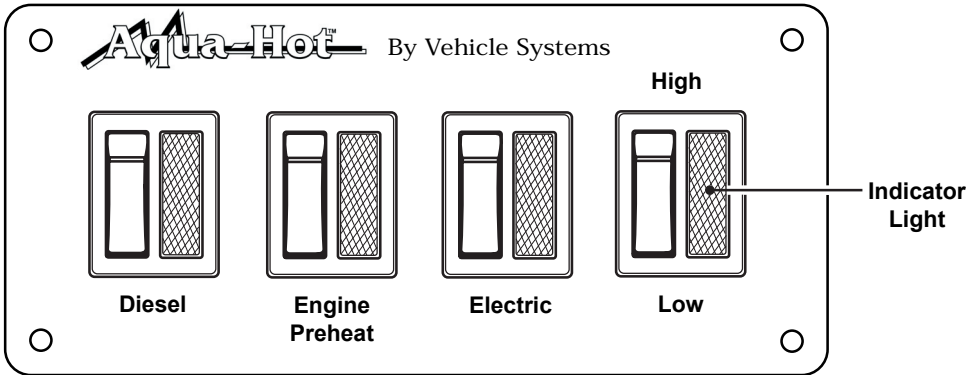

Figure 3
Turn the **Diesel** switch **ON**; reference **Figure 3**. This procedure will activate the Diesel-Burner and the indicator light located on the Diesel switch. Allow **10-20 minutes** for the Aqua-Hot System to reach operating temperature. Please note that the Diesel-Burner is the **primary heat source** for heating both the interior and the domestic hot water (such as when cool ambient temperatures exist and/or when there is a high demand for domestic hot water).
Turn the **Electric** switch **ON** in conjunction with the High / Low switch placed in the **LOW** position; reference **Figure 3**. This procedure will activate the 120 VAC / 1650 Watt Electric Heating Element and the indicator lights located on both the Electric and High / Low switches. Allow **1-2 hours** for the Aqua-Hot System to reach operating temperature.
Turn the **Electric** switch **ON** in conjunction with the High / Low switch placed in the **HIGH** position; reference **Figure 3**. This procedure will
A. Turn the Aqua-Hot's **Engine Preheat** switch **ON**; reference **Figure 3**. This procedure will activate the Engine Preheat Circulation Pump and circulate the engine's coolant through the Engine Preheat System. This feature will adequately warm the engine for easy start-ups on cool mornings.
- Reference Figure 3 for all numbers indicated in parentheses. (e.g., #8)